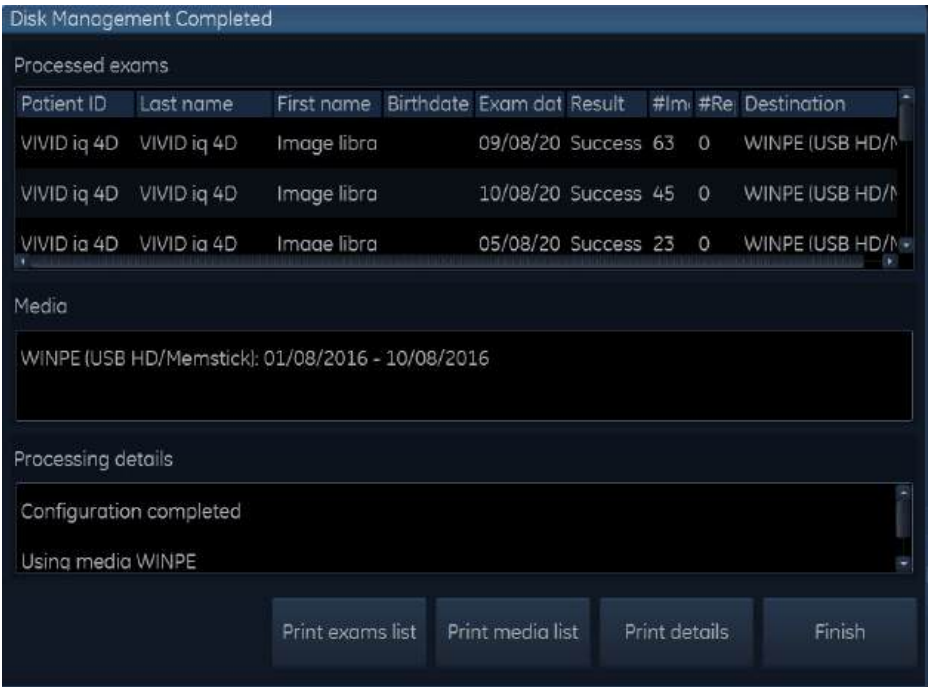

Figure 3-135. The Disk management completed window
5. When all the files are copied, the *Disk management completed* window is displayed (Figure 3-135), showing the list of processed examinations, the media used and a detailed log.